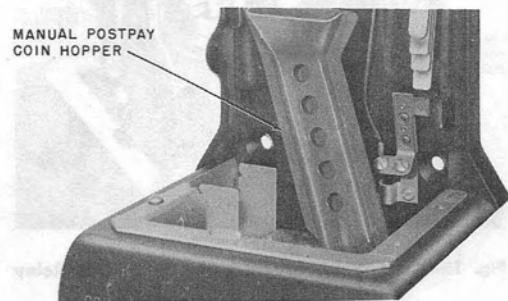

Fig. 13—200C Manual Postpay Mechanism Unit
- Manual postpay, no coin relay (Fig. 13)